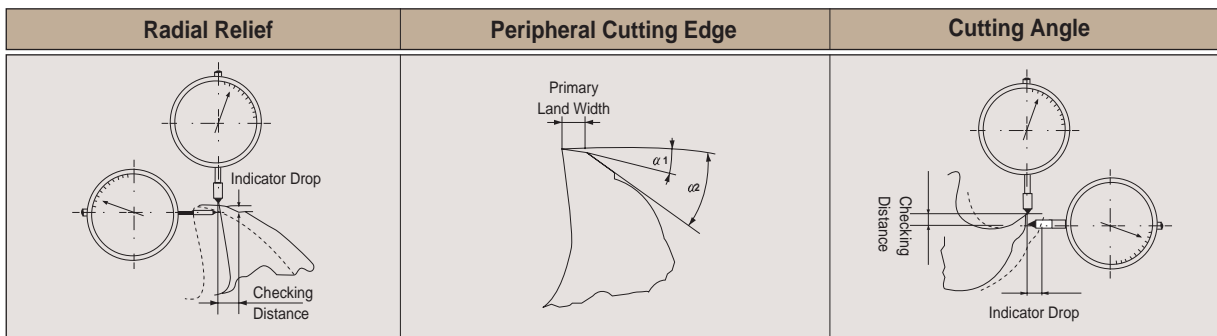

Fig. 6. Indicator Set-Up for Checking
- 2- Adjust the sharp pointed indicator to bear at the very tip of the cutting edge, pointing in a radial line, shown in Figure 6